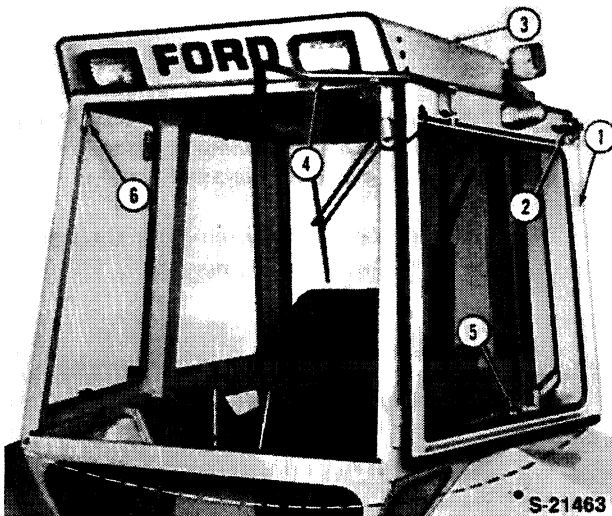
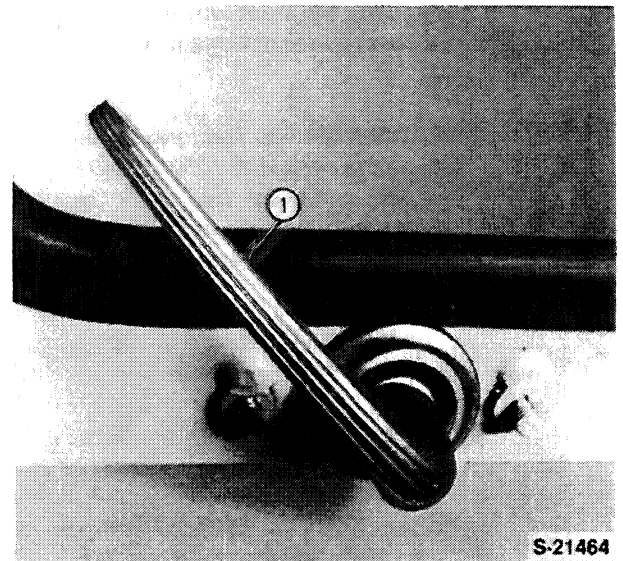

Figure 11
Figure 12
Rear Window: To open the rear window pull the lock handle (2) back until it releases from the latch bracket (6), Figure 11. Then pull the window handle (4), Figure 11, to the right to open the window out into the storage position. The window should be opened with enough force to engage the open position storage latch (5). To close the window, push the latch lever (1), Figure 12, down to release the window then pull the window handle (4), Figure 11, to the left and rearward to close the window.